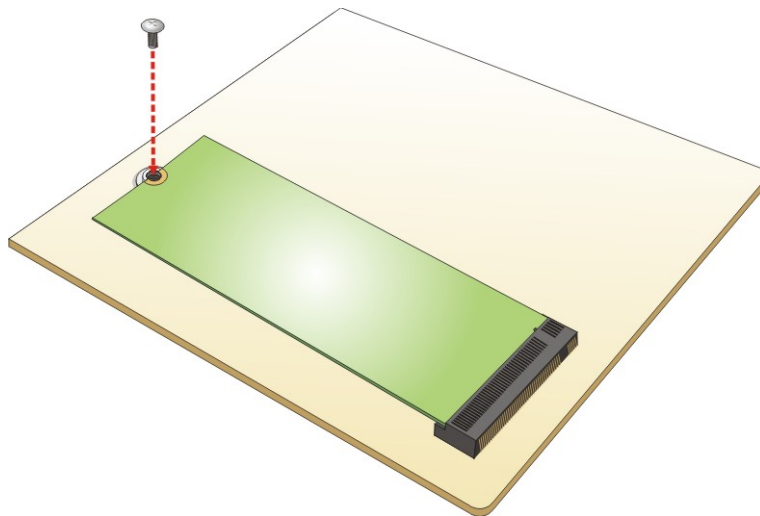

Figure 3-10: Securing the M.2 Module
Step 5: Push the M.2 module down and secure it with the previously removed retention screw (**Figure 3-10**).